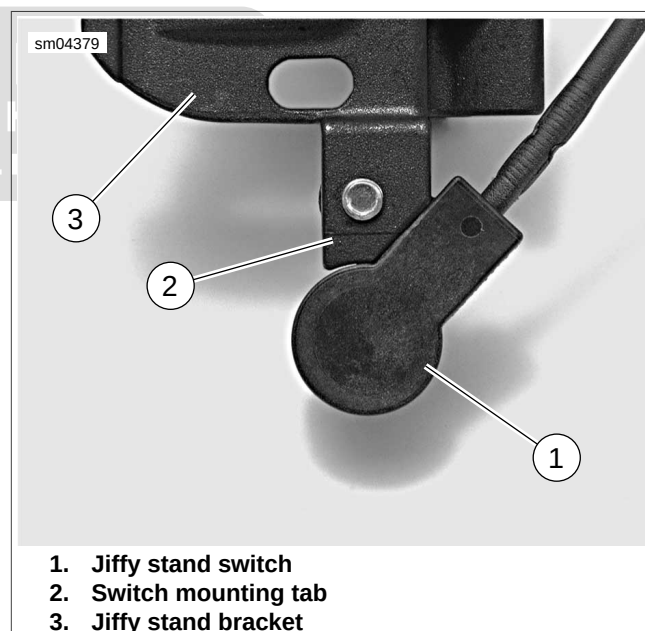

Figure 6-126. Mounting Jiffy Stand Switch: Top View (Assembly Removed from Vehicle for Clarity)
See Figure 6-126. Make sure jiffy stand switch (1) is correctly aligned with switch mounting tab (2) on jiffy stand bracket (3). If switch is not properly aligned with mounting tab when screw is tightened, switch or mounting tab may be damaged.
- See Figure 6-126. With switch (1) properly aligned with switch mounting tab (2) on jiffy stand bracket (3), tighten screw to 96-120 **in-lbs** (10.9-13.6 Nm).